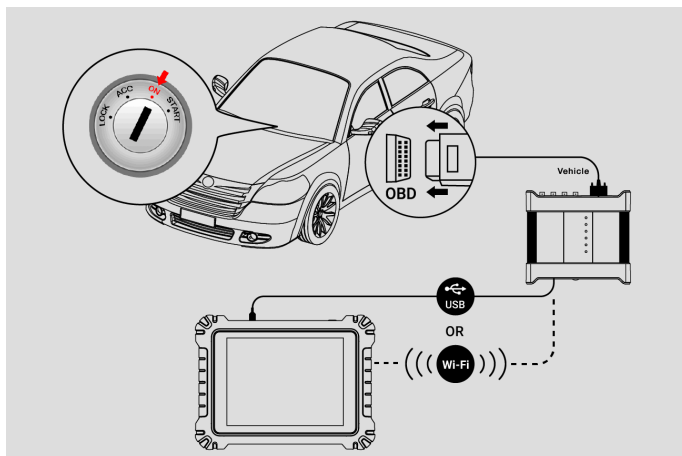

Figure 8-1 Sample Connection Diagram
1. Please refer to *Figure 8-1 Sample Connection Diagram* to complete the connection. Place the ignition in the key in position.